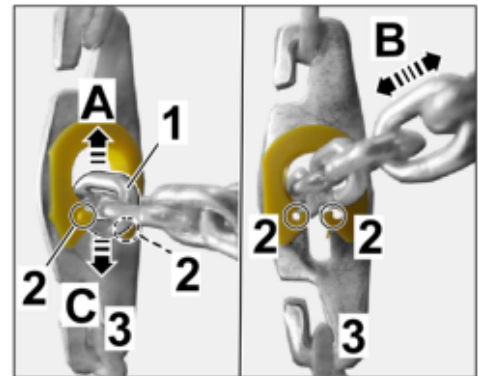

Figure 9
2.2.3 Guide chain link of the tensioning chain out of the lock in the slot on the locking plate (⇒ *Figure 9 -Arrow-*).
To do this, press the chain link past the locking lug on the lock (⇒ *Figure 9 -3-*).